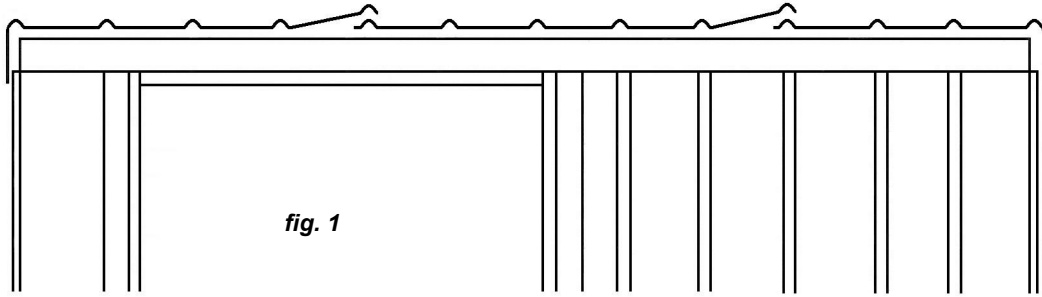

fig. 1
Step 5: Drill a hole through Door Jamb Flashings and Wall Sheets top and bottom. Nail with 50mm nails (**fig. 1**).
Nail left hand Door Jamb Flashing to Stud using three 30mm Clouts at equal spacings (**fig. 1**). Beside each 30mm Clout, rivet Door Jamb Flashing to Rib. Repeat with right hand Door Jamb Flashing.
Standard Roof: Position Roof Sheets as shown in **fig 1**. Make sure sheet joints at the back are flush. Rivet sheet joints, one rivet 200mm back from edge front and back. Fit two more rivets evenly spaced in centre of each join.
Position Roof Sheets as shown in **fig.1**. When fitting Clear Panel ensure it OVERLAPS Roof Sheets. Rivet sheet joints, one rivet 200mm from edge front and back. When riveting Clear Panel to Roof Sheets use sealed rivet with steel washer (**fig. 2**). Fit two more rivets evenly spaced in centre of each joint.